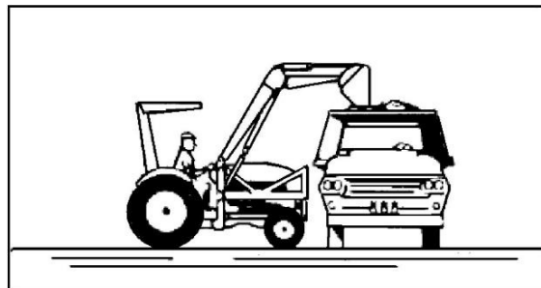

Fig 4.6. Dumping load
- Move the tractor in as close to the side of the vehicle as possible, then dump the bucket shown in figure 4.6.